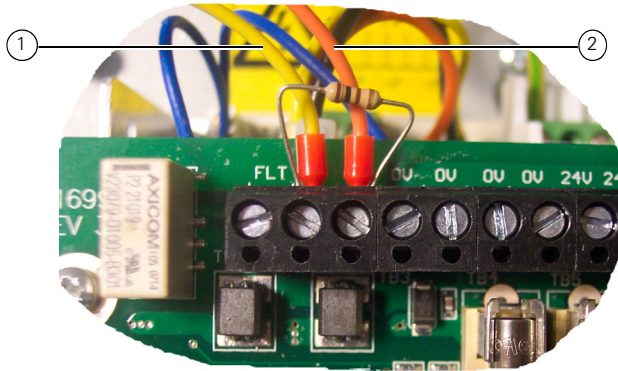

Fig. 6: FC410MIM wires at the PMM800
- 1 Note that for this procedure, refer to Figure 6. Take the remaining supplied 100 Ohm resistor and form the legs.